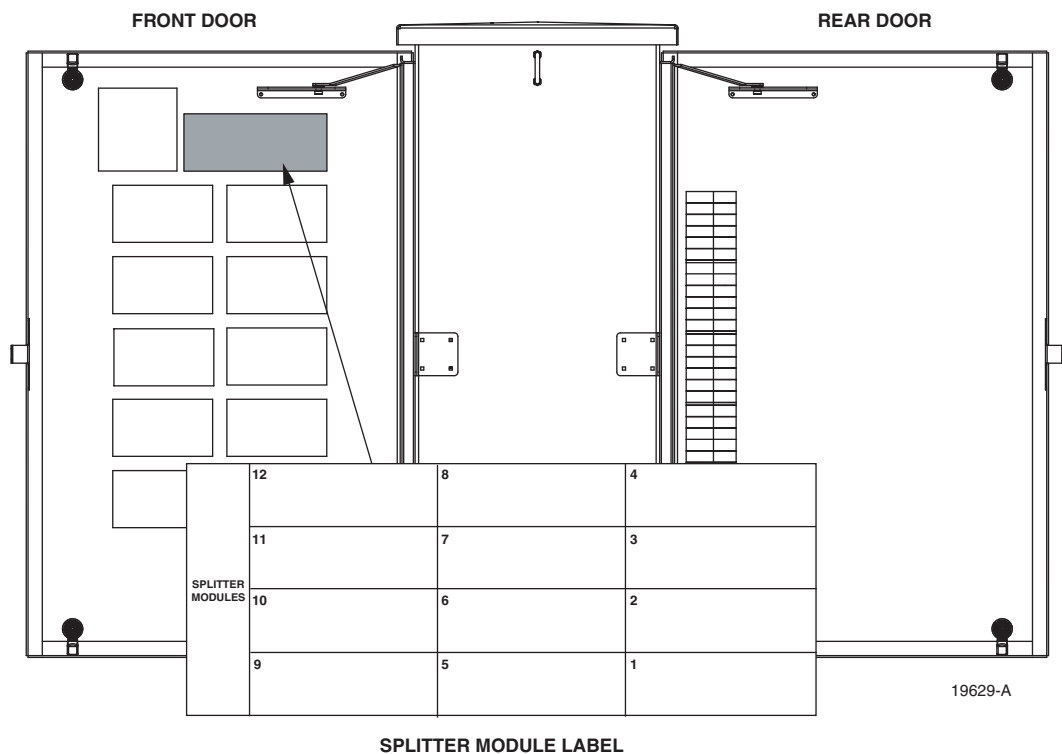
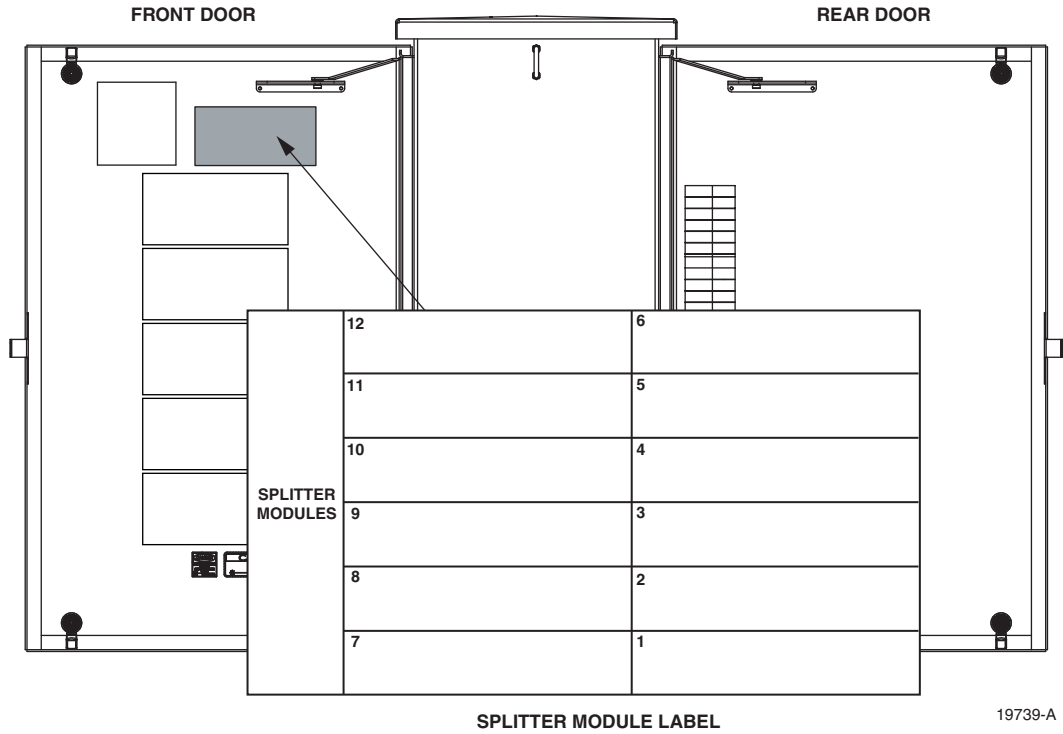

Figure 18. Splitter Module Designation Label - Type 1
Figure 19. Splitter Module Designation Label - Type 2
12. Designation labels, shown in Figure 18 and Figure 19, are provided on the front door of the cabinet for recording splitter module information. For each splitter, indicate the splice tray number, feeder cable fiber number, splitter module number, and service information.